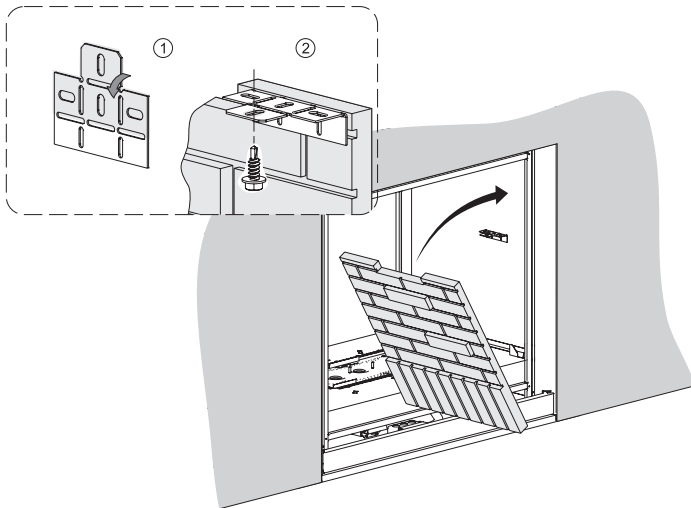

Figure 5
8. Set the bottom edge of the fiber or porcelain panel in front of the bottom brick bracket (not behind) and tilt it into place against the top brick bracket. **See Figure 5**.
9. Secure the fiber or porcelain panel in place using the remaining hand-formed retaining bracket. Form the bracket as shown and fasten it to the firebox top using a self-drilling screw. **See Figure 5**.